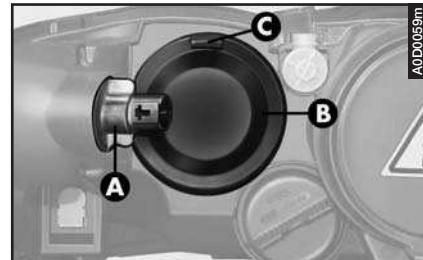

fig. 29
- Turn counter-clockwise and remove the direction indicator bulb holder (**A**-**fig. 29**), without disconnecting the connector to widen the working space.